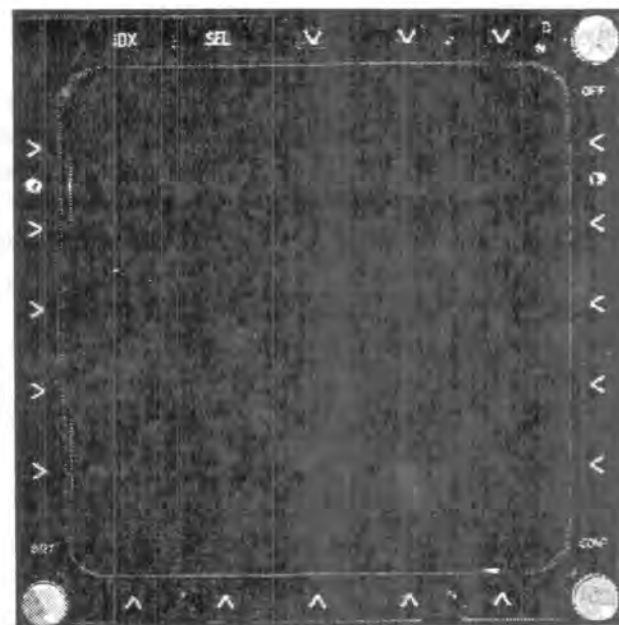

Figure 7-7 Display Unit
7.60 Two display units are located on the main instrument panel of each cockpit. The DU has a raster video cathode ray tube and a peripheral keyboard of 20 keys for selection and entry of items displayed on the CRT. The DU is shown in Figure 7-7.